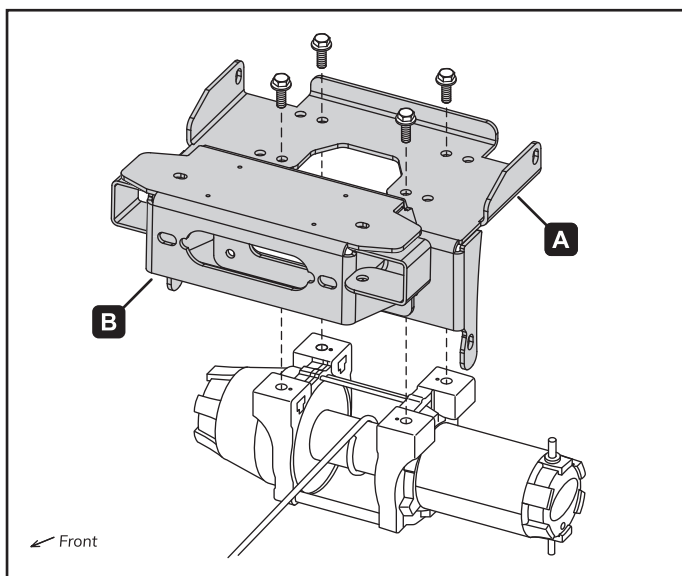

Figure 4.
5. Install your winch to the winch mount (A) using the hardware provided with your winch, as shown in figures 4 and 5.
Note: Winch orientation and rope routing shown in figure 4.